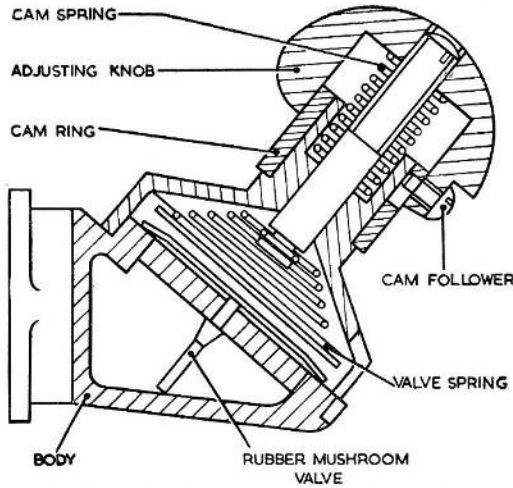

Fig. 5. Mk. I pressure expiratory valve
16. The expiratory valve (*fig. 5*) comprises a body which fits into the mask shape and enables the spent gases from the user to be exhaled to the atmosphere. The valve can be set in any one of three positions, (OFF, LOW and HIGH), by rotating the knob and allowing the cam follower to engage in the appropriate step in the cam ring. The LOW and HIGH positions are used for pressure breathing, and the OFF position for normal breathing.